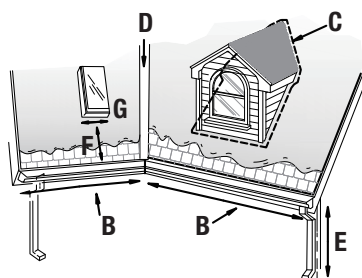

Figure B-3. Roof Measurements
STEP 1. For each area listed in Table B-5, measure the required dimensions (see Figure B-1 on page 17 and Figure B-3) and calculate the length of cable needed. Add each “area” calculation to determine the total cable length needed.